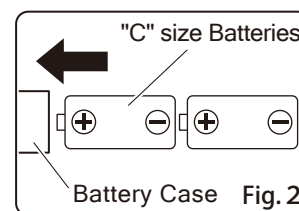

Fig. 2
- Insert the new batteries as shown in Figure 2, and replace the cap by turning clockwise. Make sure the cap is on tight.
- Batteries may not be oriented properly. Please reinsert the batteries referring to figure 2 under "Battery Replacement" above.